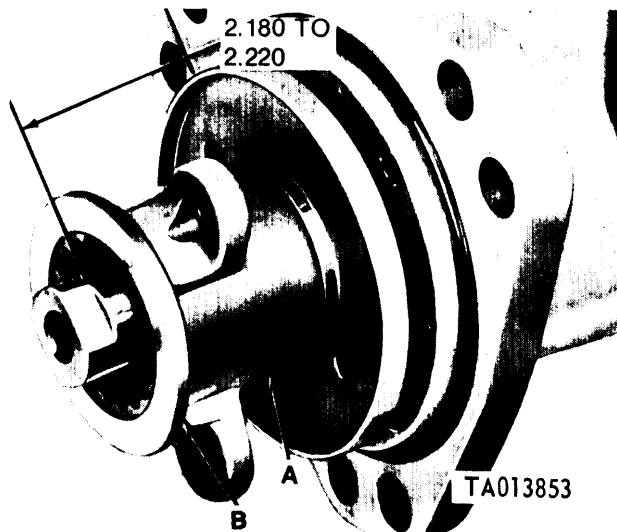

Figure 3-128. Selecting proper sliding gear spacer.
(4) Refer to figure 3-128. Install sliding gear (A) on timing device hub. Select and fit proper sliding gear spacer (B) to give 2.180 to 2.200-inch dimension. Remove sliding gear and sliding gear spacer and retain for future assembly.